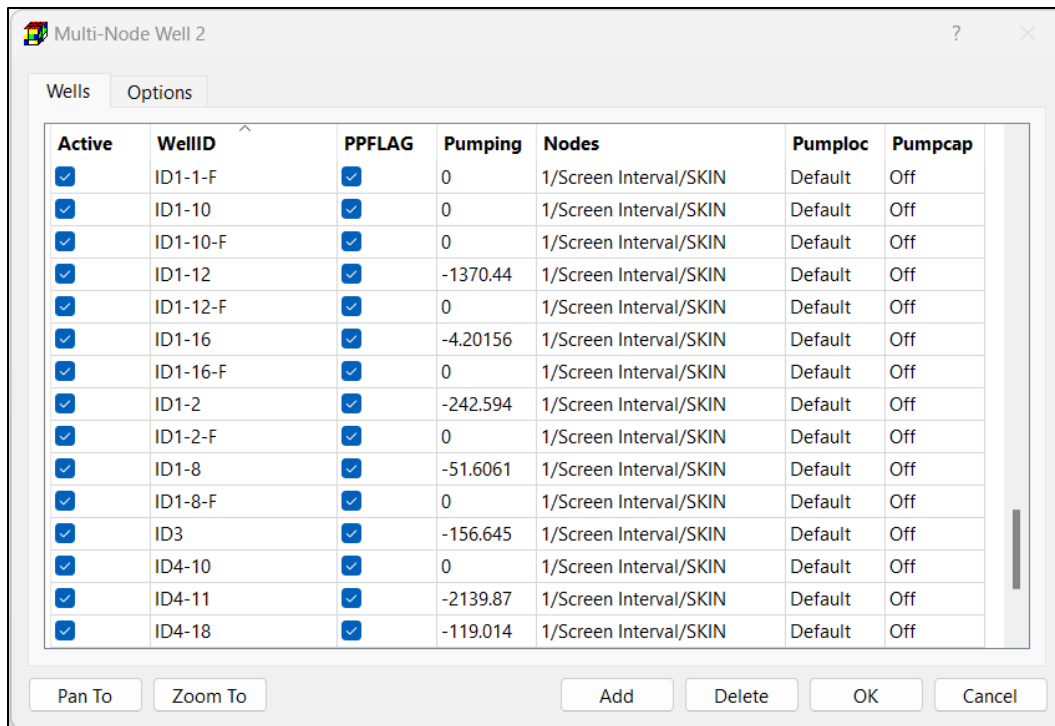

Figure 75. The Multi-Node Well 2 dialog box
1. **Cell-by-cell input method:** Right-click on a model cell to display the Multi-Node Well 2 dialog box (Figure 75).
You can enter the pumping rates of a well by double-clicking on its Pumping cell in the Multi-Node Well 2 dialog box (Figure 75). This will open the MNW2 Pumping dialog box (Figure 77) with the following settings.
- **Qdes [L³/T]**: This represents the target volumetric pumping rate at the well. Use negative values for withdrawal and positive values for injection. Qdes should be set to 0 for non-pumping wells. If constraints are applied, the calculated volumetric withdrawal or injection rate may be adjusted within the range of 0 to Qdes. The flow direction (withdrawal or injection) remains unchanged throughout each stress period. When Pumpcap (Figure 75) is on, in the first stress period in which Qdes is specified with a negative value, Qdes represents the maximum operating discharge for the pump. Any different negative values of Qdes are ignored in subsequent stress periods in which head-capacity relations are used. If $Qdes \geq 0.0$, then pump-capacity adjustments are not applied.
- **CapMult [-]**: This is a multiplier for implementing head-capacity relations (see Pump Performance Curve below) during a given stress period. CapMult is not used and grayed out if Pumpcap (Figure 75) is off.
The MNW2 Nodes dialog box (Figure 78) is used to define nodes for the well that is displayed in the dialog box. This dialog box is opened by double-clicking on a cell in the Nodes column of the Multi-Node Well 2 dialog box (Figure 75). The available settings of the dialog box are as follows.
The MNW2 Pumploc dialog box (Figure 79) is used to define the pump intake location along the well borehole. This dialog box is opened by double-clicking on a cell in the Pumploc column of the Multi-Node Well 2 dialog box (Figure 75). The available settings of the dialog box are as follows.
The MNW2 Pumpcap dialog box (Figure 80) is used to define the pump performance curve and related parameters for the well that is displayed in the dialog box. This dialog box is opened by double-clicking on a cell in the Pumpcap column of the Multi-Node Well 2 dialog box (Figure 75). The available settings of the dialog box are as follows.